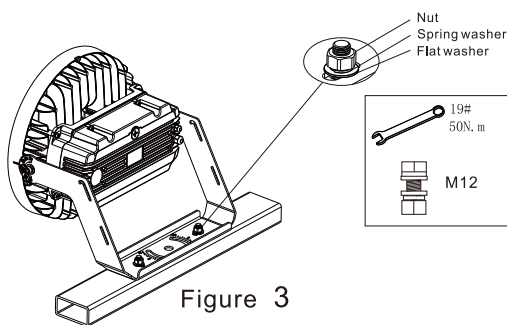

Figure 3
3. Install the luminaire on the crossbar and secure it with nuts, spring washers and flat washers. (Figure 3)